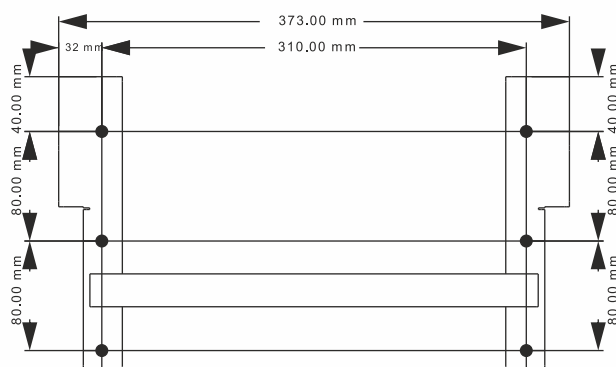

Fig. 5.3 Mounting Brackets for KUSPC
1. Connect the mounting plate strip to the mounting brackets and then mark the Positions of the Drill Holes of the wall mount bracket. The mounting position should be marked as shown in Figure 5.3 & 5.6.